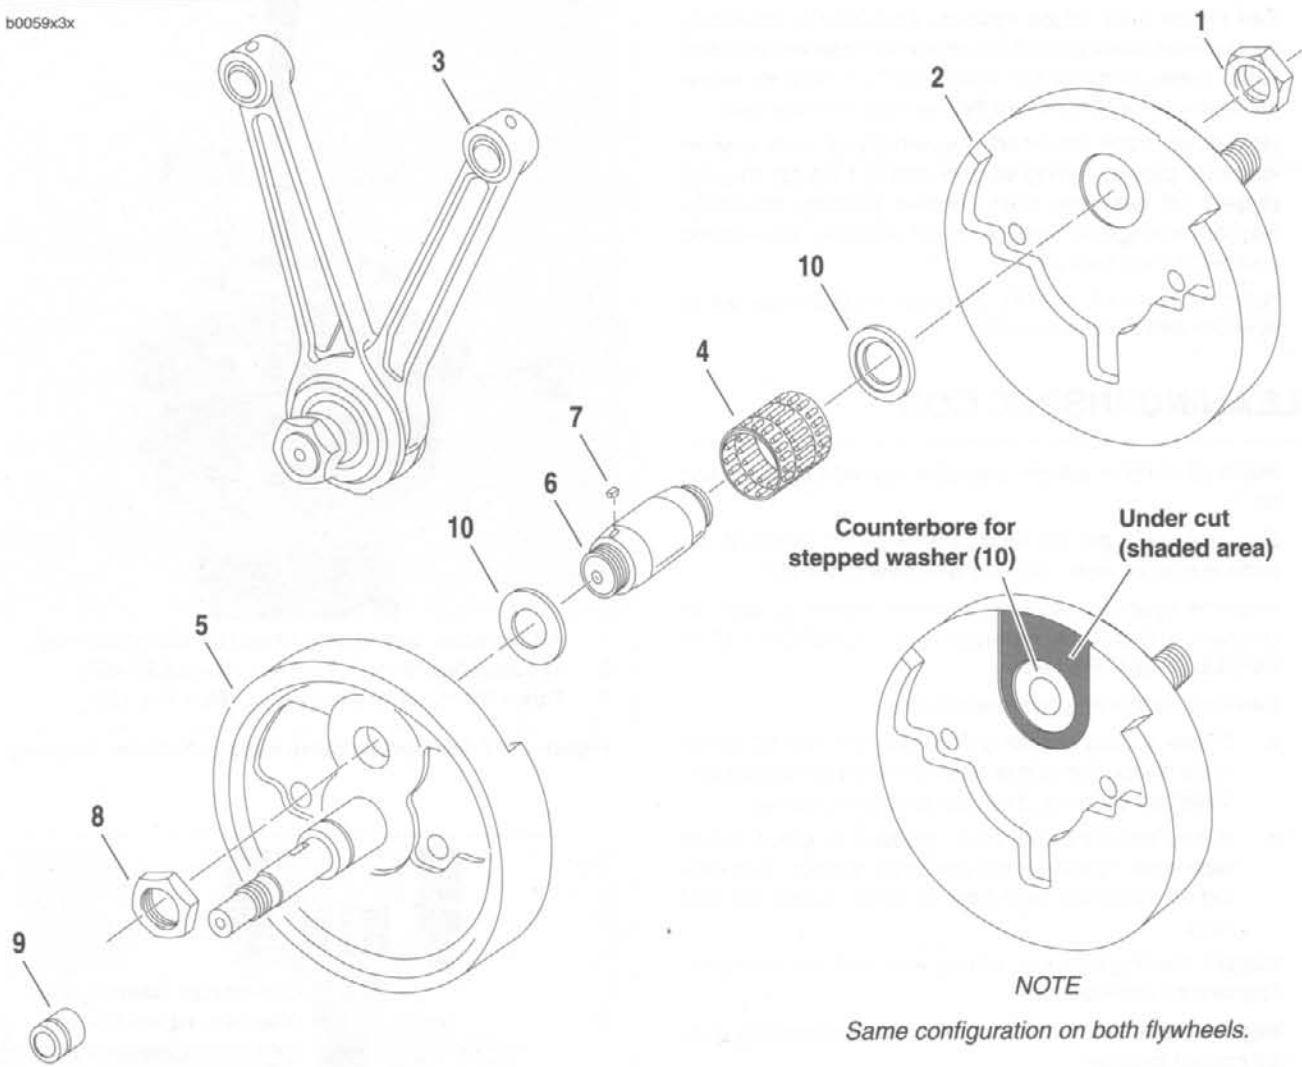

Figure 3-99. 1999 Flywheel and Connecting Rod Assembly
1. See Figure 3-99. Place flywheel assembly in rebuilding jig. Remove crank pin nut (1). Strike left flywheel with soft metal mallet at about 90° from crank pin hole on wheel periphery to loosen. Lift left flywheel (2) off crank pin.
2. Hold down crank pin bearing assembly (4) with a short length of pipe or tubing so connecting rods (3) may be slipped off bearings, then remove bearing assembly. Secure bearings (4) together in set until they are washed and refitted to crank pin.
3. Remove crank pin nut (8), then tap crank pin (6) out of flywheel and remove key (7).